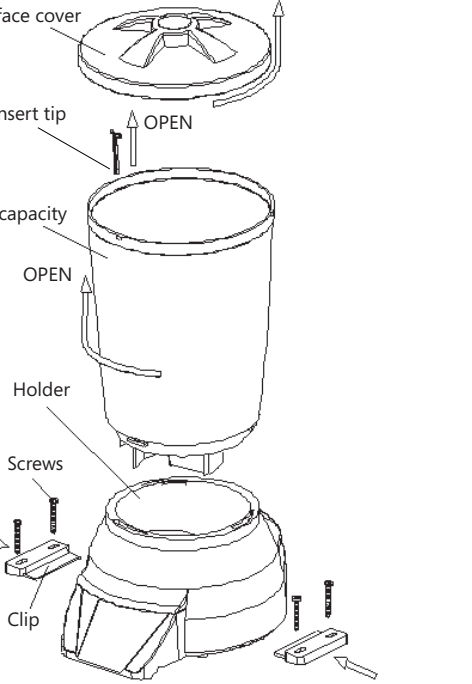

Fig 1
- Remove the top cover by count- clockwise rotation, and install by clockwise rotation. Take the insert tip away and rotate the clockwise if you want to removed the food bucket; please pay attention to the stand asymmetry due to the buckle distributing. And then fix the feeder to the pond side with bracket by screw (see fig 1).